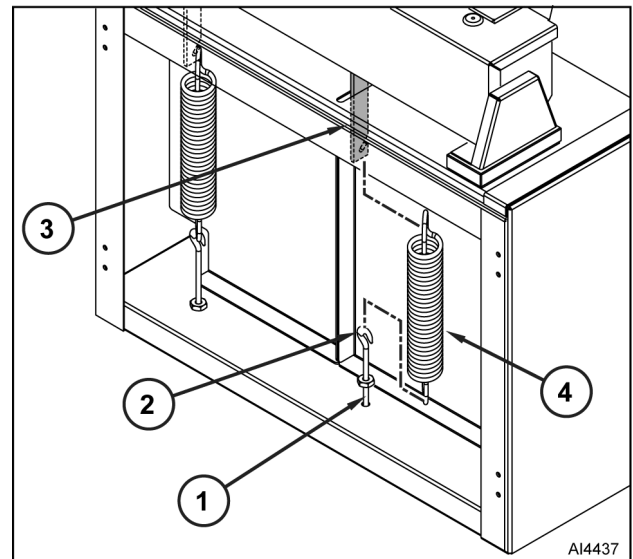

Fig. 17
4. Loosen all eye bolt mounting nuts (1, Fig. 17) to release tension on springs.
5. Remove lift assist spring (4, Fig. 17) from eye bolt hooks (2).
6. Remove lift assist spring from hanger (3, Fig. 17).